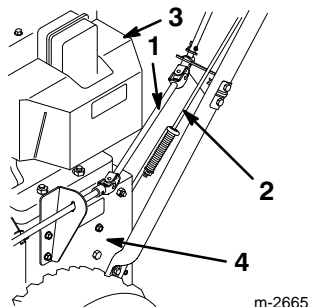

Figure 4
IMPORTANT: Ensure that the chute control rod assembly is between the engine and the traction rod (Fig. 4).
4. Position the left handle against the side of the snowthrower and align the handle mount holes with holes in the side plate (Fig. 4).